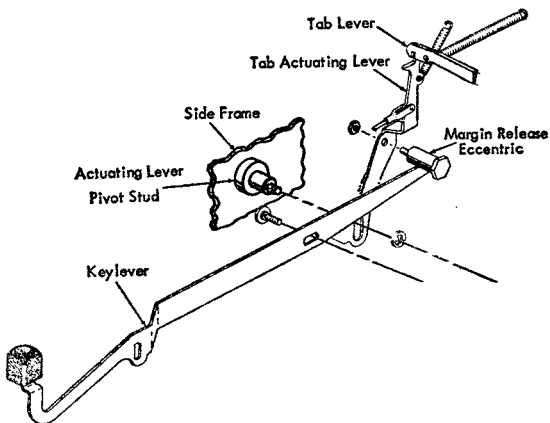

Figure 12. Margin Release
The margin-release mechanism remains the same except for the redesigned actuating lever between the keylever and the tab-lever to conform with the new tab mechanism (Figure 12). The tab-lever spring provides positive contact between the tab-lever-actuating lever and margin-release lever.
**MARGIN RELEASE ECCENTRIC.** Adjust so that the margin control lever clears the underside of the margin rack by .010" to .015" (Figure 12).